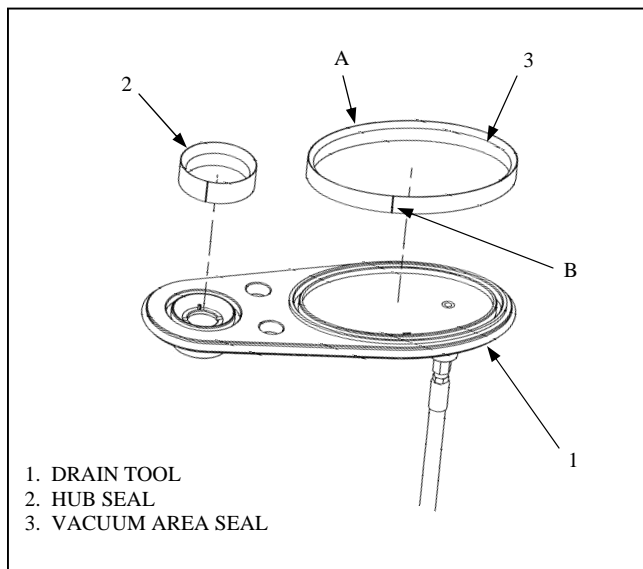

Figure 4-4. Changing Drain Tool Seals
4.6.2.1 Drain Tool Setup. The Drain Tools use two functional seals. The Hub Seal, see Figure 4-4, 2 creates a seal around the Fuel Probe. The Vacuum Area Seal (3), creates the vacuum area that allows the Drain Tool to adhere to the airframe. The Oval and Elongated Drain Tools use either the Flat Vacuum Area Seal or the Contoured Vacuum Area Seal, depending on the surface profile. Table 4-2 suggests which seal should be used for a specific airframe.
4.6.2.1.2 Changing the Vacuum and Hub Seals. To change either the Vacuum Seal or the Hub Seal, follow the steps described below. See Figure 4-4 for supporting diagrams.